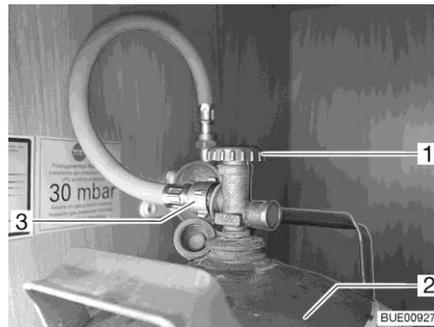

Fig. 94 Gas bottle compartment
- Close the regulator tap (Fig. 94,1) on the gas bottle (Fig. 94,2). Pay attention to the direction of the arrow.
- Unscrew the gas tube (Fig. 94,3) from the gas bottle.